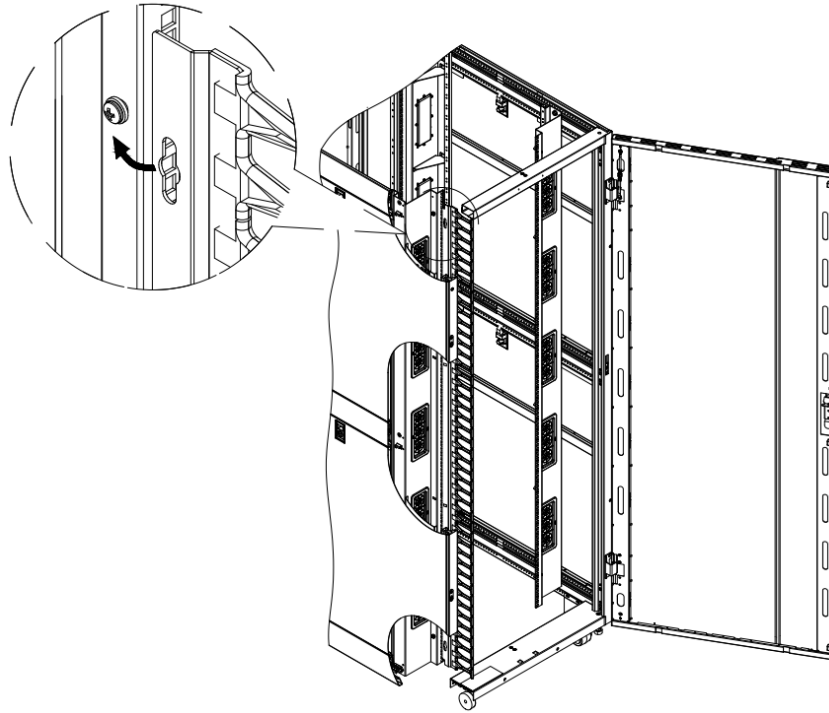

Figure 6.5.6
- Hang the cable manager (① or ②) on the hanging ear of the rail. (Figure 6.5.6)